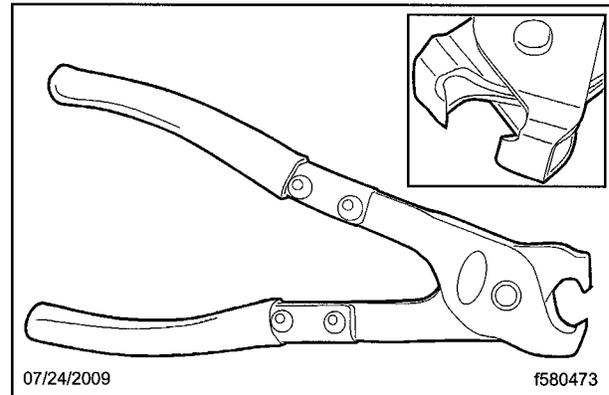
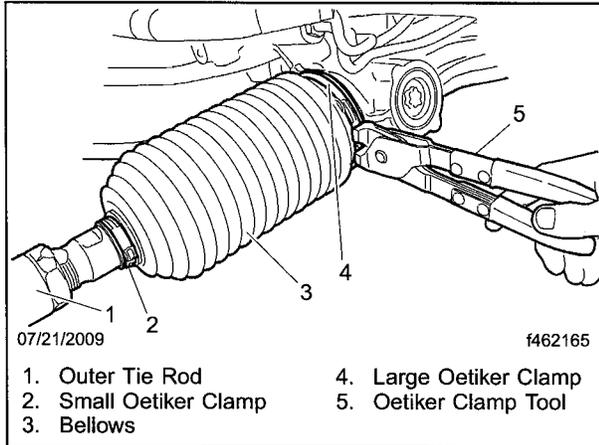
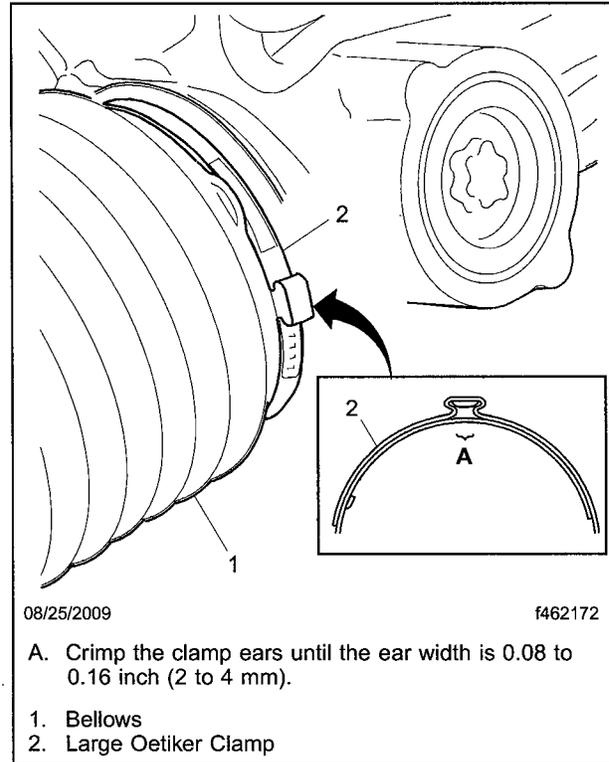

Fig. 12, Oetiker Clamp Tool, P/N 14100037 or 14100082
Fig. 13, Oetiker Clamp Installation
Fig. 14, Oetiker Clamp Ear Width
- 12.2 Using an Oetiker clamp tool (Fig. 12), crimp the small and large Oetiker bellows clamp ears until the ear width is 0.08 to 0.16 in (2 to 4 mm). See Fig. 13 and Fig. 14.